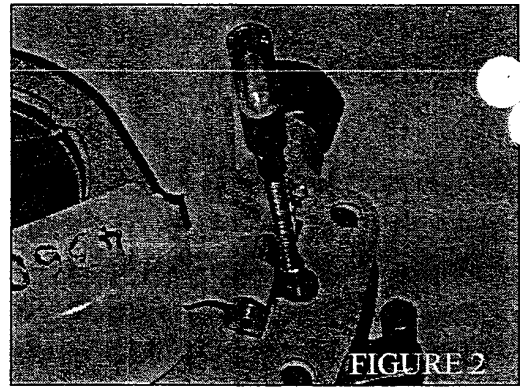

FIGURE 2
- 3.3 While carefully guiding the float valve into the float valve seat, slide the float into position as shown in Figure 2 and insert the float shaft through the float bracket and the float.
- 3.4 Place the float and float valve assembly into the float bracket with the float valve in the float valve seat, as shown in Figure 2.